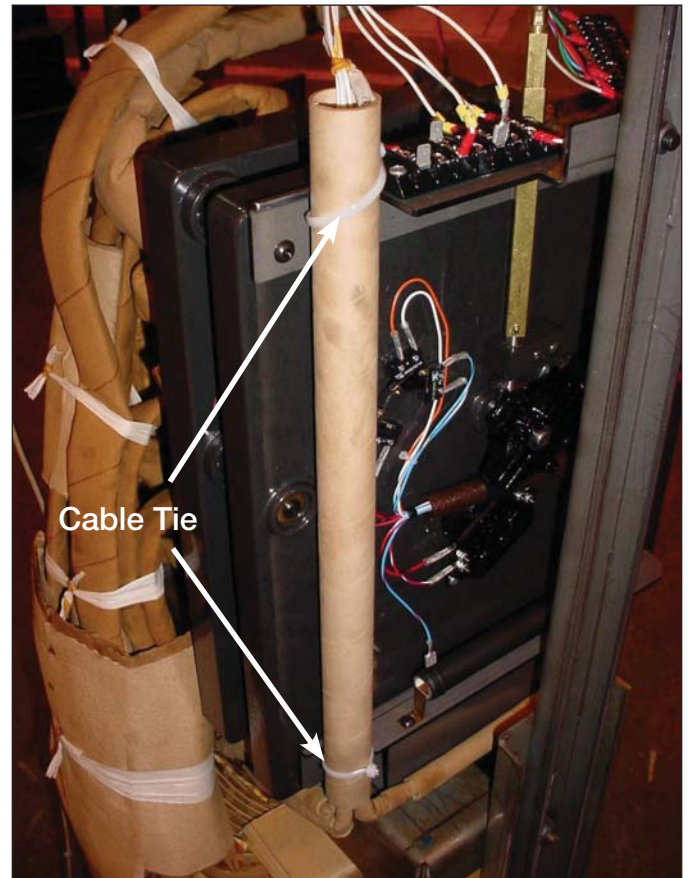

Figure 3.
2. Use a pair of diagonal side cutters cut and remove the cable-ties from the control winding hard insulation tube and tap changer top bracket assembly. See Figure 3.